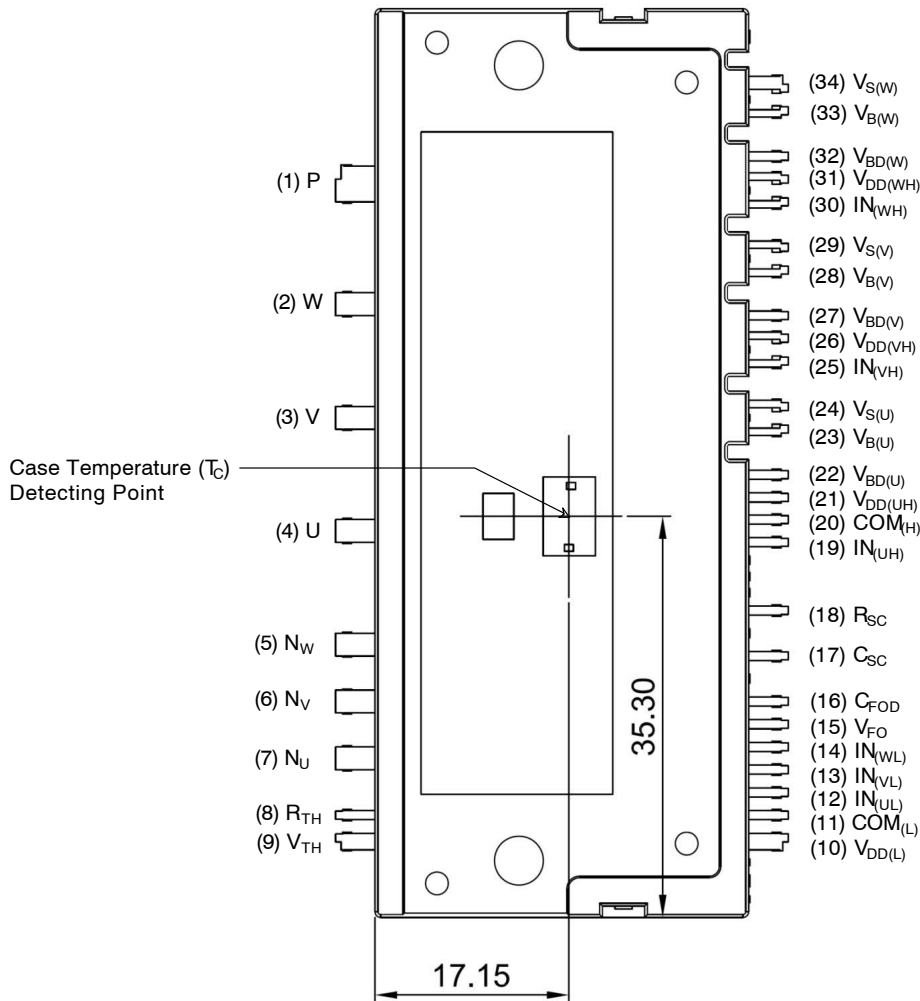

Figure 1. Top View
- 1200 V–35 A IGBT inverter for three–phase DC/AC power conversion (Refer to Figure 1)
4. For the measurement point of case temperature ( $T_C$ ), please refer to Figure 1. DBC discoloration and Picker Circle Printing allowed, please refer to application note AN-9190 (Impact of DBC Oxidation on SPM® Module Performance).